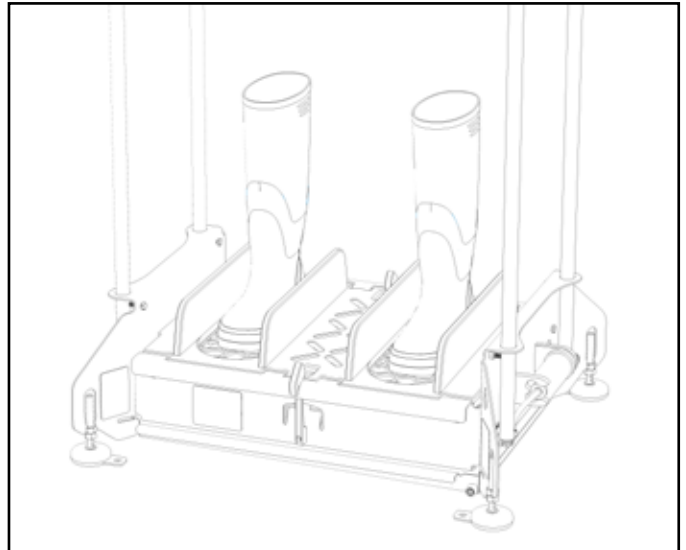

Fig. 9.1: Foot/Boot position for unit operation
3. Position feet within base plate outlines, centering each foot above its nozzle system [Figure 9.1].